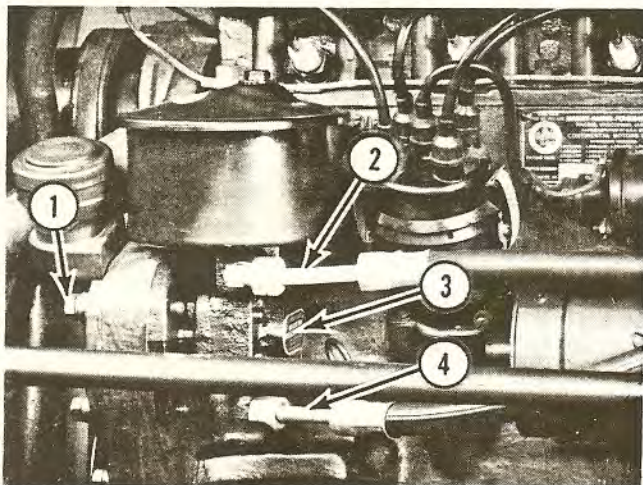
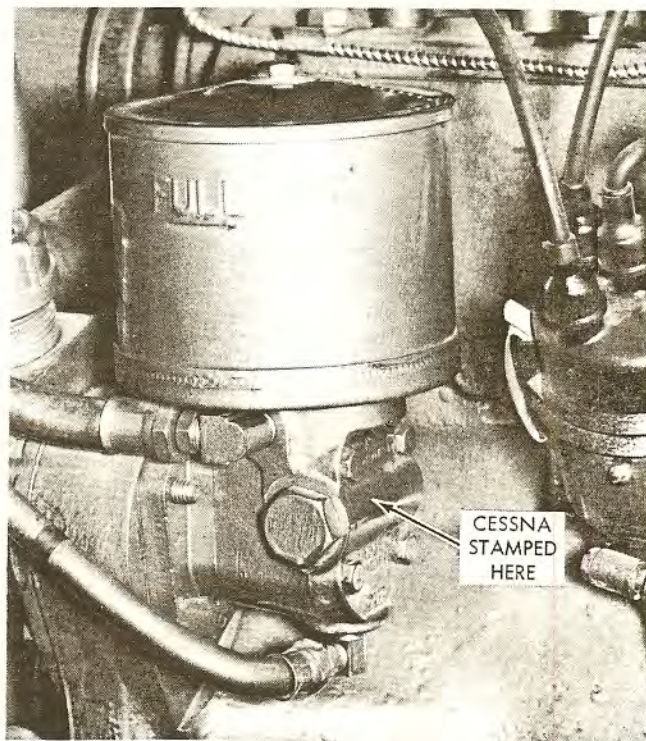
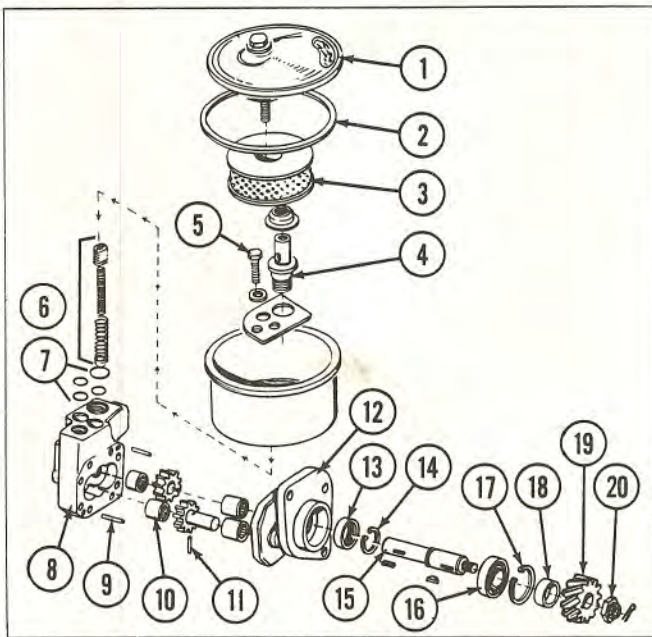

Fig. 1 - Barnes Power Steering Pump
Fig. 2 - Cessna Power Steering Pump
Fig. 3 - Barnes Power Steering Pump - Description and Sequence of Parts
The power steering pumps listed in this section are used on MF and TO 35, 40 and 50 Tractors, also MF 65 Tractors. The early model 35, 40, 50 and 65 Gas Tractors use the Barnes pump, which can be identified by a tag on the housing; see Fig. 1. This pump can be replaced for service by a Cessna pump which is also used on late model gas tractors. See Fig. 2 for identification of this pump.
The Barnes Power steering pump can be identified by the Barnes tag located on the pump housing; see Fig. 1. This pump is driven by the timing gear train and delivers approximately 4 gallons per minute at an engine speed of 2000 rpm. It has a relief valve pressure of 1100 to 1200 psi.
The Barnes power steering pump can be repaired as far as replacing the internal parts such as shaft, gears, bearings, or seals. If the housing is damaged, the complete unit will have to be replaced. The pump bodies, Nos. 8 and 12, Fig. 3, are not available through parts. If the complete pump is to be replaced, it can be replaced by the Cessna pump shown in Fig. 2.
To disassemble the pump, proceed, as follows, and refer to Fig. 3 for description of parts.
1. Remove reservoir retaining stud, No. 4, Fig. 3, and capscrew, No. 5, and remove reservoir.
Inspect all parts for wear or damage. If housing, No. 8 or No. 12, Fig. 3, is damaged, replace the complete pump assembly. (These housings are not available in parts.) The Barnes pump can be replaced with the Cessna pump shown in Fig. 2.
1. Install new seal, No. 13, Fig. 3.
6. Place pump gears in place, as shown in Fig. 3; lubricate with light oil and place pump bodies together and secure with 8 screws.